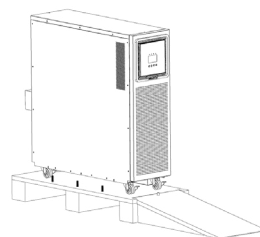

Fig. 11.
- ❑ Put the ramp as figure 11 shows and download the equipment from the pallet.